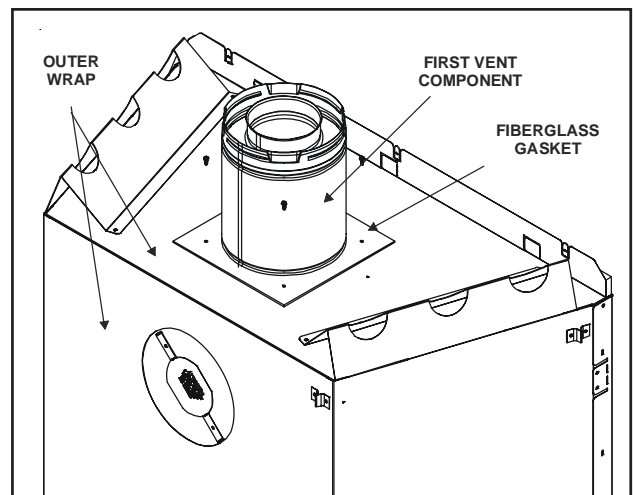

Figure 1.16 Fiberglass Gasket
- Make sure that the heater gasket supplied with the heater seals between the first flue component and the outer heater wrap (see Figure 1.16).